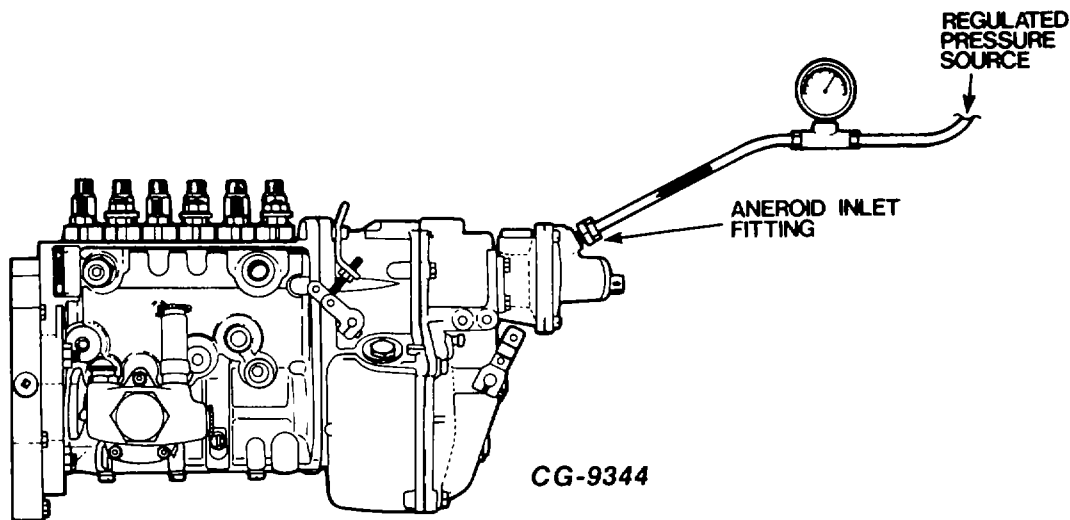

Figure 27. Aneroid Diaphragm Leakage Test For Robert Bosch MW Pump
3. Pressurize diaphragm housing to 20 psi max. for 30 seconds. (See Figure 27.)